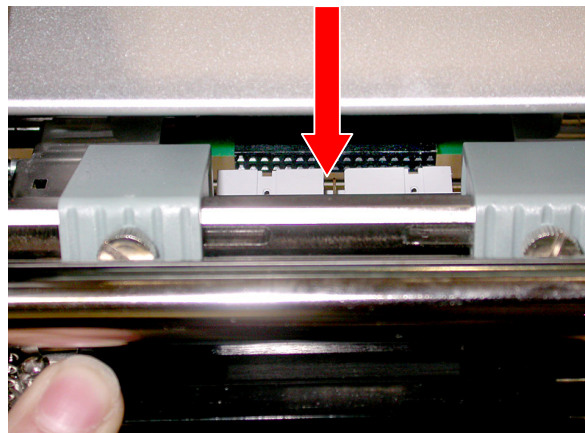

Fig. 1
4. To replace the printhead, line up the plug (Fig.1) and side guides (Fig.2) of the printhead assembly and gently insert the printhead back into its carriage.